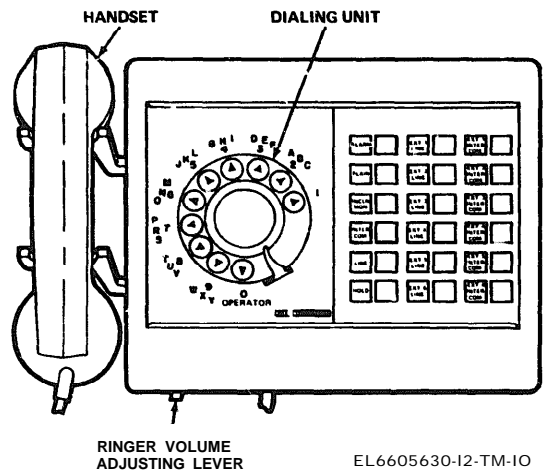

Figure 3-1. Call Commander Telephone Set, Type 860, controls.
A. Call Commander (fig. 3-1) .